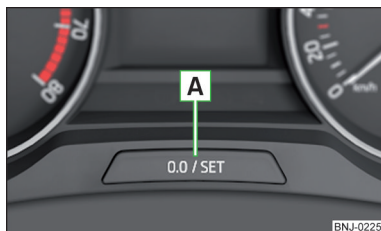

Fig. 26
➤ Press button **A** » Fig. 26 on page 31.
- › Press and hold the button **A** » Fig. 26 until the Time is shown in the display.